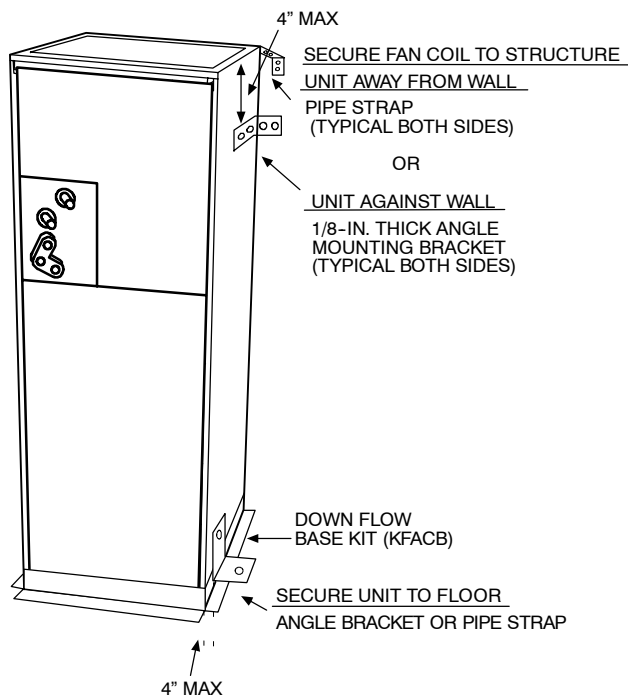

Fig. 7 - A-Coil
- b. If fan coil is against wall, secure fan coil to wall stud using 1/8-in. thick right-angle brackets. Attach brackets to fan coil using no. 10 self-tapping screws and to wall stud using 5/16-in. lag screws. (See Fig. 7.)